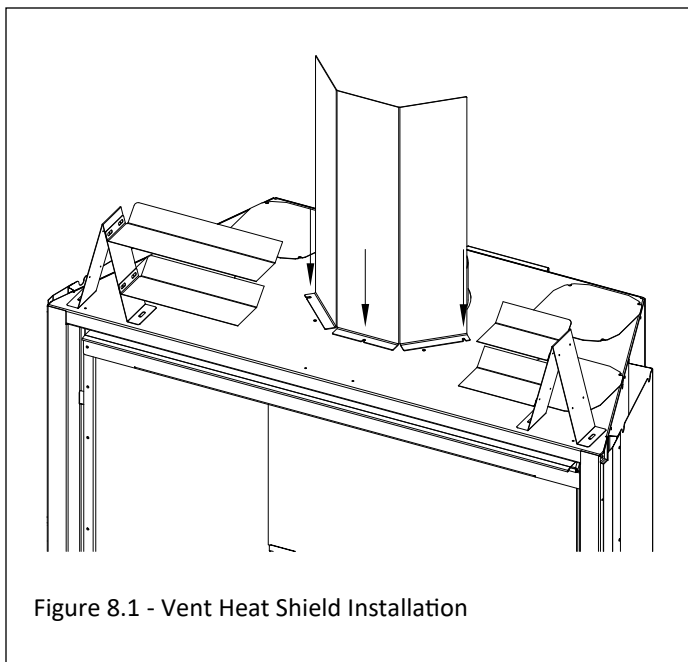

Figure 8.1 - Vent Heat Shield Installation
- The provided vent heat shield is required to be installed in all venting scenarios. See Figure 8.1. The stand off assembly and heat shields are cut away in this image to show the vent heat shield better.